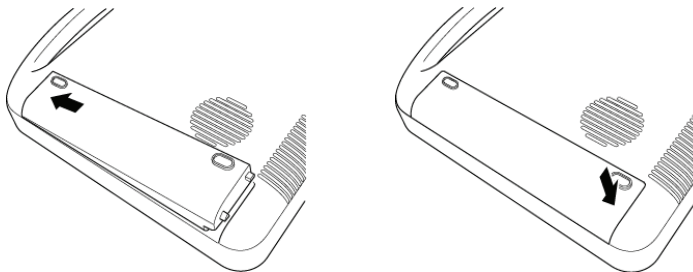

Figure 2-5: Install the battery
- 3 Place the battery into the battery compartment, at a slight angle. See Figure 2-5